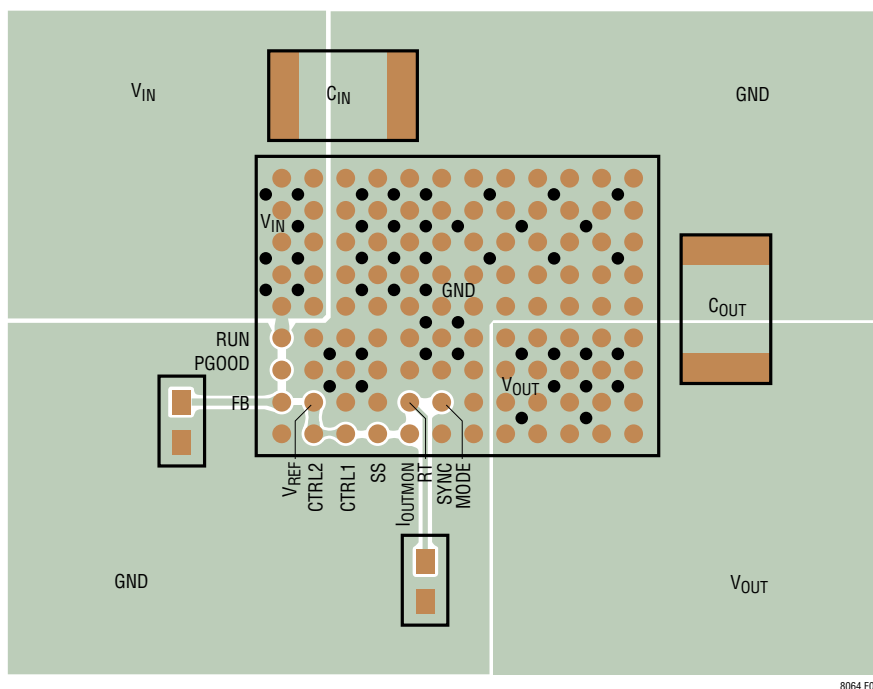

Figure 5. Layout Showing Suggested External Components, GND Plane and Thermal Vias
Most of the difficulties associated with PCB layout have been alleviated or even eliminated by the high level of integration of the LTM8064. The LTM8064 is nevertheless a switching power supply, and care must be taken to minimize EMI and ensure proper operation. Even with the high level of integration, you may fail to achieve specified operation with a haphazard or poor layout. See Figure 5 for a suggested layout. Ensure that the grounding and heat sinking are acceptable.
6. Use vias to connect the GND copper area to the board's internal ground planes. Liberally distribute these GND vias to provide both a good ground connection and thermal path to the internal planes of the printed circuit board. Pay attention to the location and density of the thermal vias in Figure 5. The LTM8064 can benefit from the heat sinking afforded by vias that connect to internal GND planes at these locations, due to their proximity to internal power handling components. The optimum number of thermal vias depends upon the printed circuit board design. For example, a board might use very small via holes. It should employ more thermal vias than a board that uses larger holes.